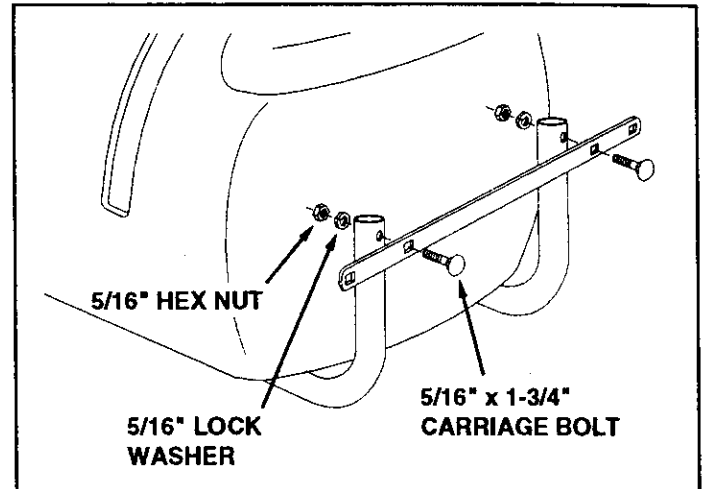

FIGURE 6
- Assemble the boom mount bracket to the rear of the hitch tubes using two 5/16" x 1-3/4" carriage bolts, 5/16" lock washers and 5/16" hex nuts. **Do not tighten yet.** See figure 6.
- **Tighten** the two bolts which fasten the boom mount bracket to the rear of the hitch tubes. See figure 6.